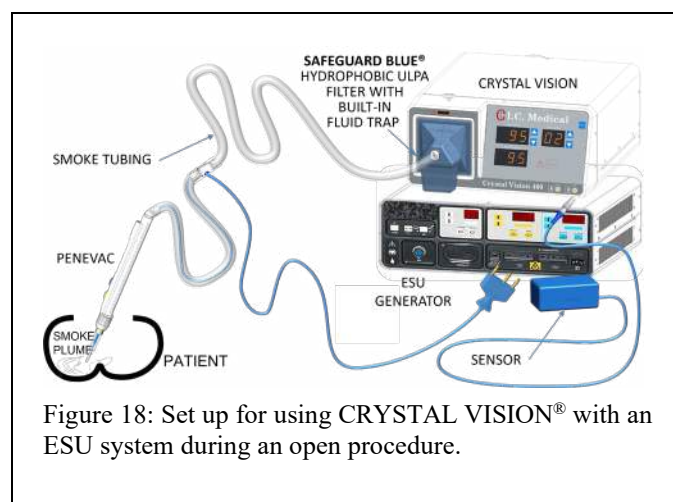

Figure 18: Set up for using CRYSTAL VISION® with an ESU system during an open procedure.
3. Refer to Figure 18 or 19 for set-up.